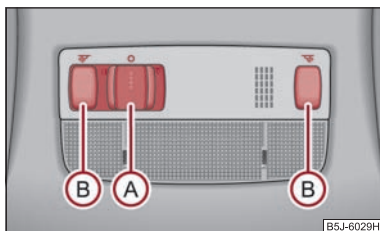

Fig. 41 Detail of the headliner: Interior lighting front / rear
- Press the switch **A** to the right, the symbol  appears ⇒ fig. 41.
- Press on one of the switches **B** ⇒ fig. 41 in order to switch the right or left reading light on or off.